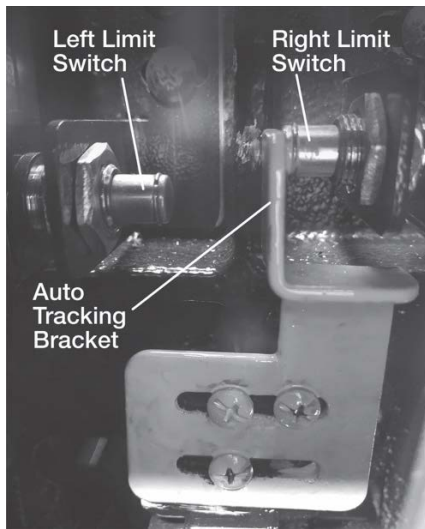
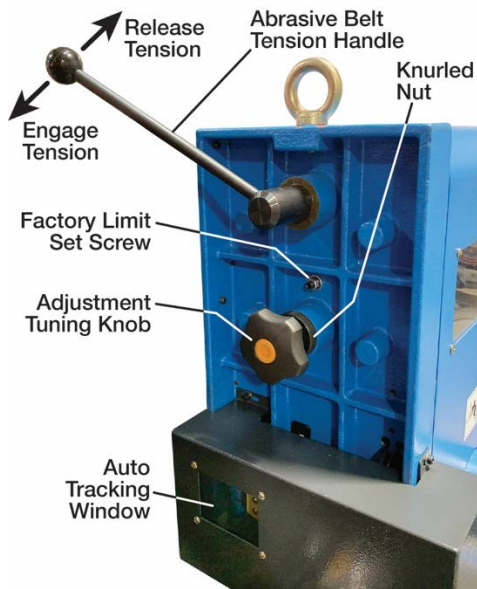

Figure 9-14: Tracking Mechanism and Tracking Switches
Figure 9-15: Factory Limit Set Screw and Adjustment Tuning Knob
When the belt tracking is properly adjusted, the auto tracking bracket oscillates left to right from one switch to the other. This can be viewed through the tracking window. See Figure 9-14. If you do not see proper oscillation, adjustment may be needed.
The factory limit set screw (see Figure 9-15) limits you from adjusting the left direction of travel too far, allowing the belt to travel off the outside end of the top roller. This set screw is preset at the factory and should not require adjusting.
The adjustment tuning knob (see Figure 9-15) allows for fine tuning the tracking and centers the abrasive belt on the roller. Adjust this knob to balance the auto tracking bracket to oscillate left to right from one limit switch to the other (see Figure 9-14).
1. Loosen the large, knurled nut behind the adjustment tuning knob (see Figure 9-15). This will allow you to quickly adjust the belt tracking when needed.
3. Release tension from the abrasive belt by rotating the abrasive belt tension handle clockwise (see Figure 9-15).
7. Apply tension to the abrasive belt by rotating the abrasive belt tension handle counterclockwise (see Figure 9-15).
10. Start the abrasive belt drive only and move immediately to the auto tracking window to observe the auto tracking bracket (see Figure 9-14).
NOTE: if rotating the adjustment tuning knob counterclockwise results in a loss of tension in the tuning knob that prohibits the auto tracking bracket from moving towards the left limit switch, the factory limit set screw (see Figure 9-15) will require adjustment. Carefully follow the factory limit set screw adjustment steps below.